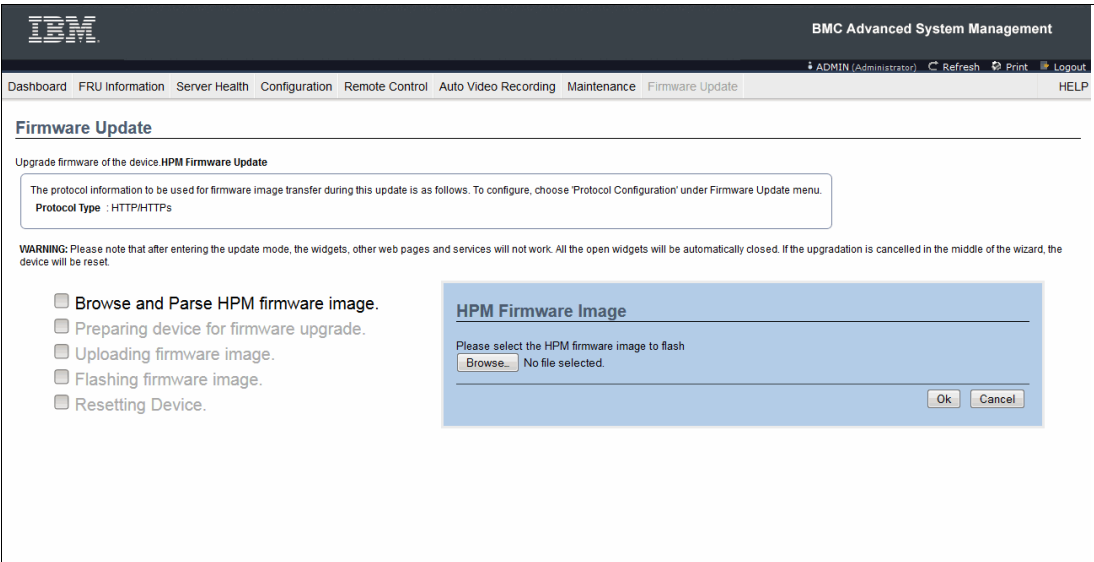

Figure 3-8 Select the firmware image
6. Select the firmware update file from your local disk by selecting **Browse and Parse HPM Firmware Image**, clicking **Browse**, and selecting the file, as shown in Figure 3-8.